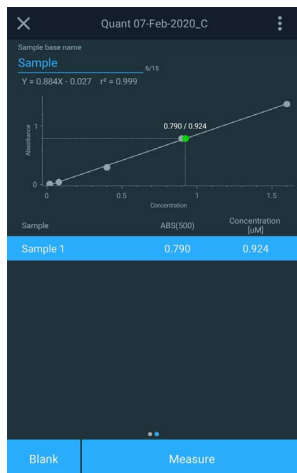

Figure 5: Beer's Law plot
5. The software will automatically generate a Beer's Law plot from the entered concentration data and measured absorbance values. Record the slope of the line in your lab report as ϵ (Figure 5). Use this plot to complete Part 4.